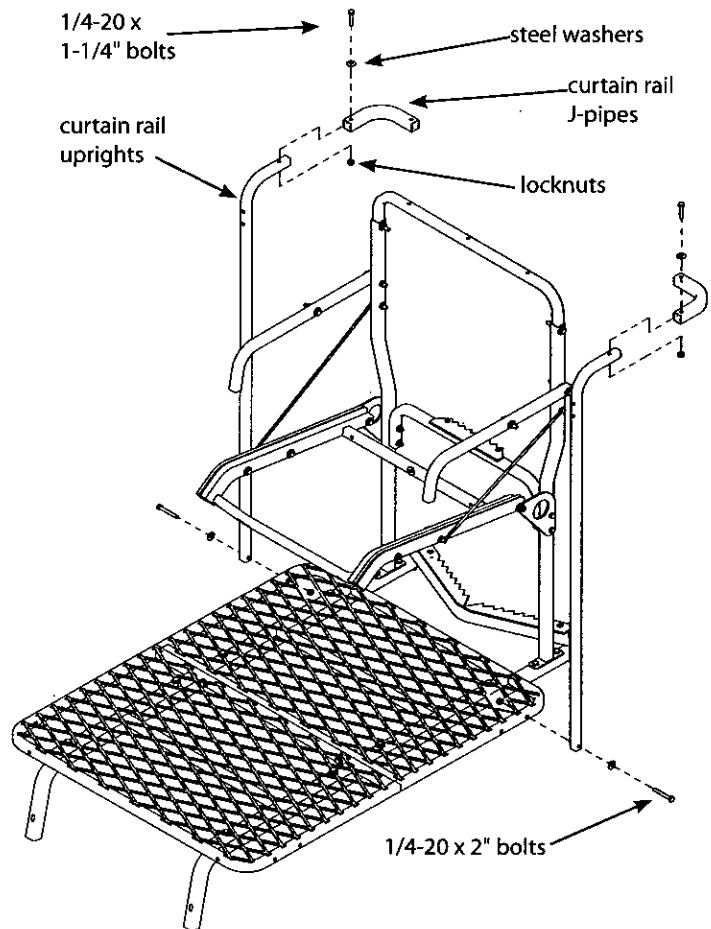

Figure 8
11. a. Insert the (2) curtain rail uprights (410019) into the curtain rail J-pipes and secure together using (2) provided 1/4-20 x 1-1/4" bolts, locknuts and steel washers. **SEE FIGURE 8.**
b. Attach the (2) curtain rail uprights to the rear platform using (2) provided 1/4-20 x 2" bolts, locknuts and steel washers. **SEE FIGURE 8.**